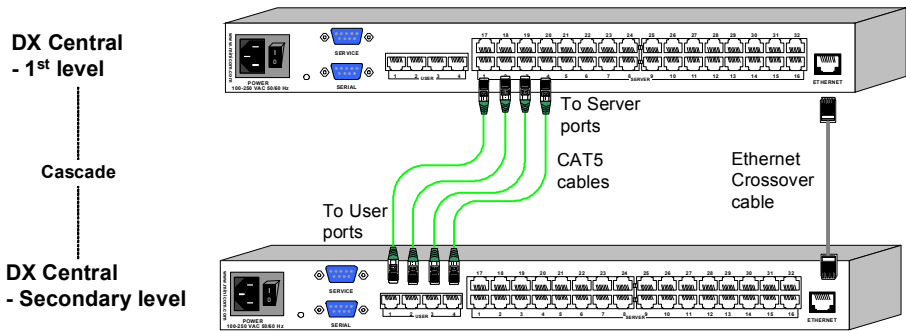

Figure 30 Example of cascaded DX Central units
Figure 30 illustrates cascaded DX Centrals.
2. On the figure of the DX Central, click a Server port that is cascaded to the lower level DX Central. In the example in Figure 30 click Server port 1. The Port Configuration box appears.
5. **Input port No:** – From the drop-down menu select the lower level User port the upper level Server port is connected to. For example in Figure 30 Server port 1 is connected to User port 1.
5. **Output port No:** – From the drop-down menu select the higher level Server port the lower level User port is connected to. For example in Figure 30 User port 1 is connected to Server port 1.